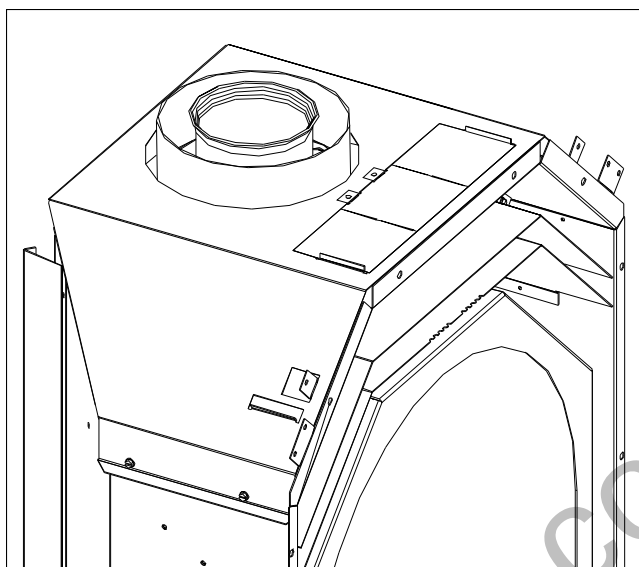
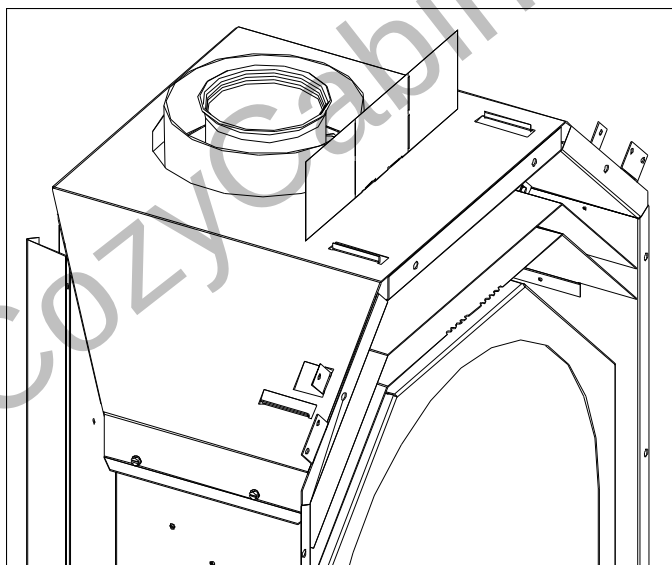

Figure 9. Vent Heat Shield Flat.
Figure 10. Vent Heat Shield Bent Up.
1. The heat shield is shipped flat (see Figure 9). The flat shield must be bent up 90° to the top of the unit (see Figure 10).